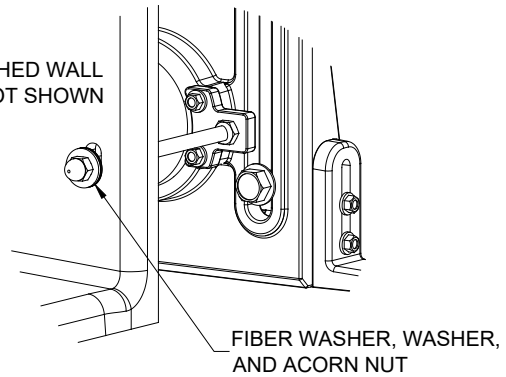
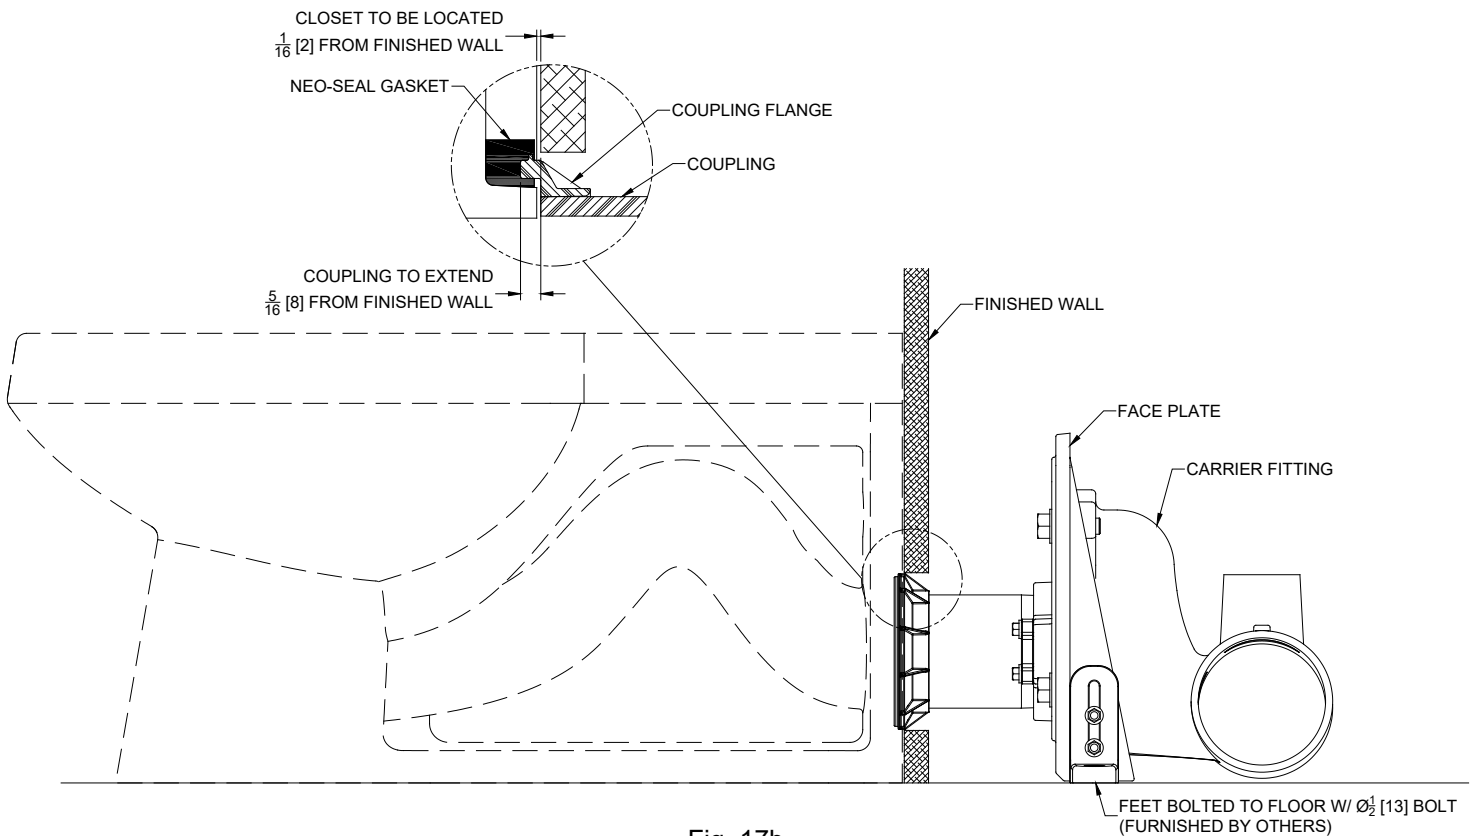

Fig. 17a
Fig. 17b
17. Assemble a fiber washer, nut onto each rod and hand tighten. Secure closet with an additional half-turn using a wrench on each nut to complete the installation. See Fig. 17a and Fig. 17b.